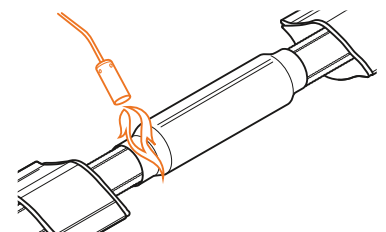

Fig. B11.1.6
6. Shrink the sleeve down with the use of a gas burner, moving the flame from the middle to the ends of the sleeve all around the pipe circumference (Fig. B11.1.6).